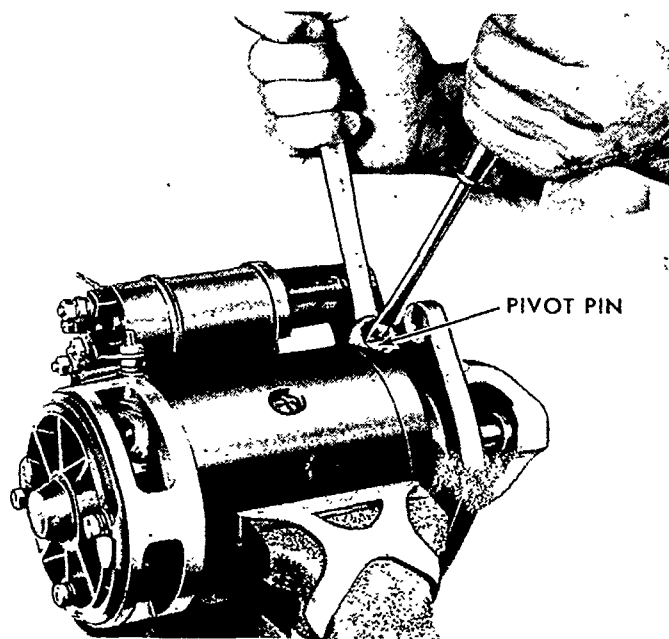

Figure 50
- d. If the clearance is incorrect, loosen the lock nut on the drive lever pivot pin, Figure 50; turn the pin clockwise to increase the clearance or counterclockwise to reduce the clearance.
4. After setting the clearance, hold the pivot pin in position with a screwdriver and tighten the lock nut, Figure 50.